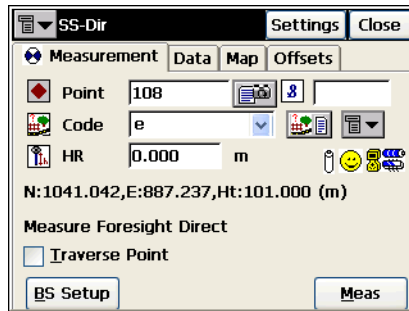

Figure 6-9. Sideshot-Direct – Measurement Tab
- *Display Coord*: if chosen, the coordinates of the previous point measured will display below the HR data (see Figure 6-9 on page 6-10).
- *Display Coord:* if chosen, the coordinates of the previous point measured will display below the HR data (see Figure 6-9 on page 6-10).